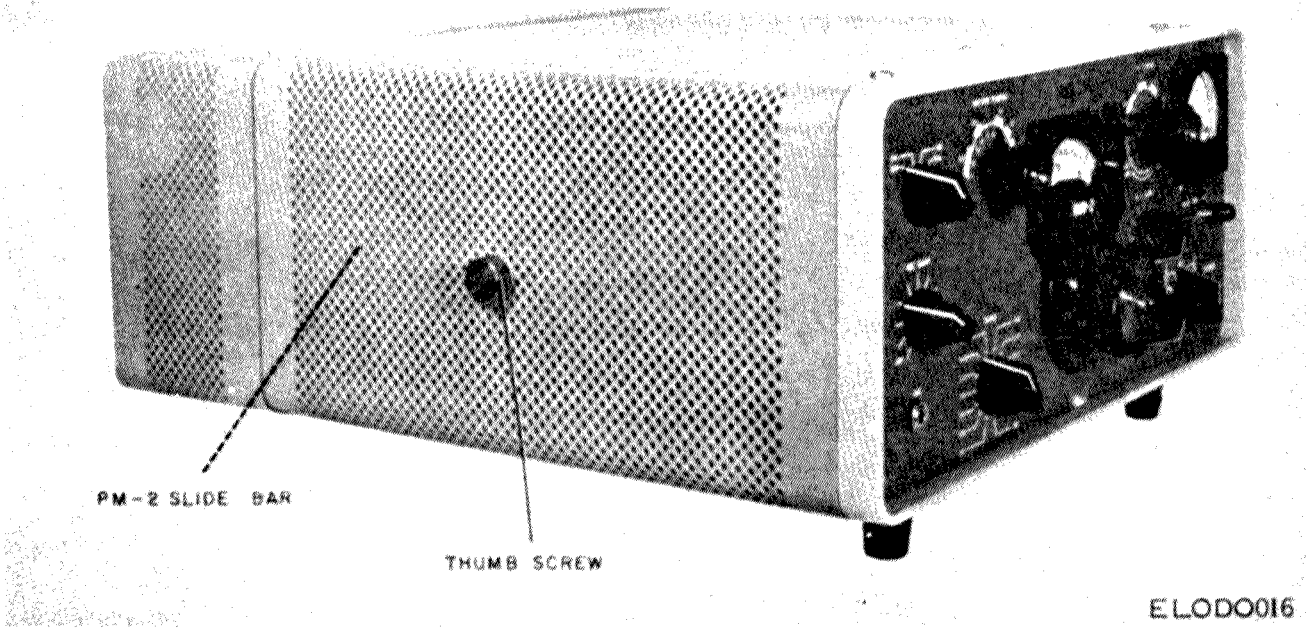

Figure 7-5. PP -3 990/FRC -93 assembled to Collins KWM-2/2A.
d. Push the PP-3990/FRC-93 and the Collins KWM-2/2A together, and tighten the thumbscrews in the chassis nuts to hold the two together. Be sure power plug P2 mates correctly with the corresponding jack in the Collins KWM-2/2A. (Fig. 7-5). shows the complete assembly.